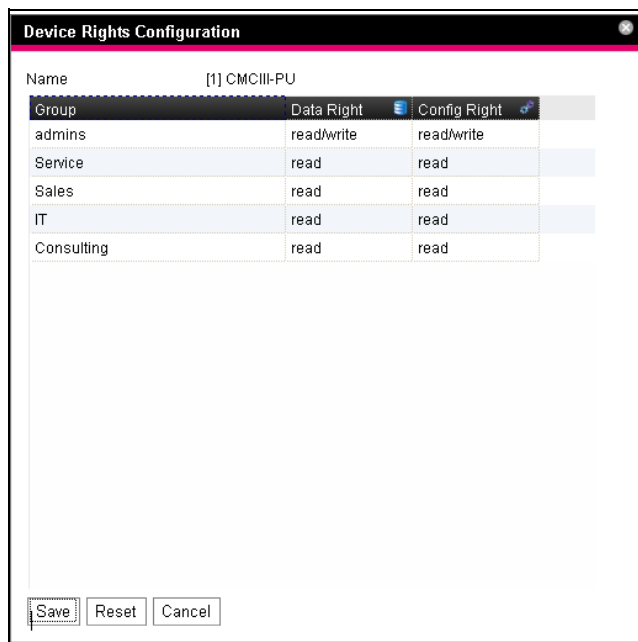

Fig. 42: "Device Rights Configuration" dialogue
The "Device Rights Configuration" dialogue opens (fig. 42).
The associated icons are displayed when a sensor is selected on the **Configuration** tab in the navigation area and this expanded down to the lowest level and also in the "Device Rights Configuration" dialogue (fig. 42, item 1). The icons emphasise the assignment to the "Data" and "Config" data types.